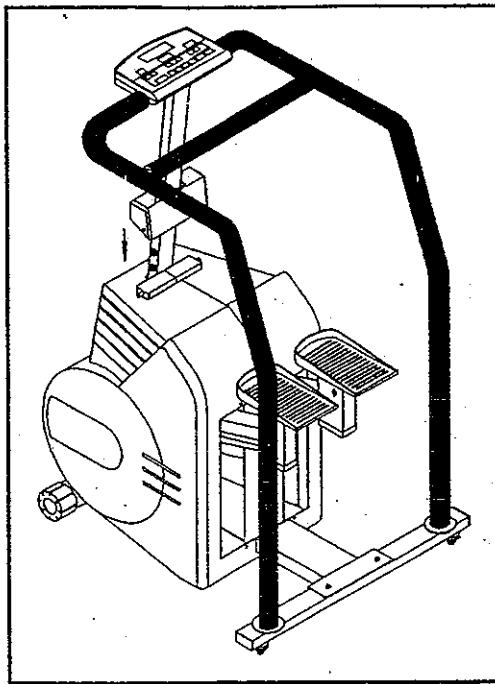

Fig. 23
10. Replace the post shroud, secure with two screws (see Fig. 23 & 24).